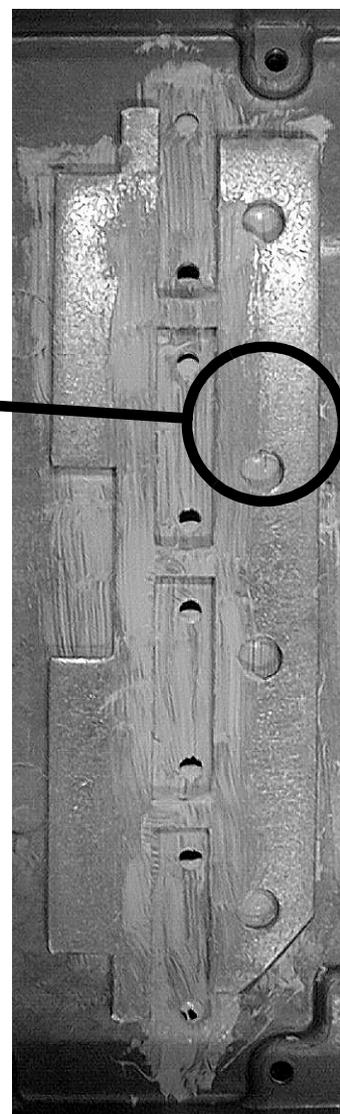

**Figure 2 Correct Placement Of Heatspreader On Heatsink**
17. Place the heatspreader on the heatsink as shown in Figure 2 and Figure 3 (PCB 220-01326-01: machined side of heatspreader is placed face up). Ensure that there will be adequate silicon grease between the transistors and the heatsink.